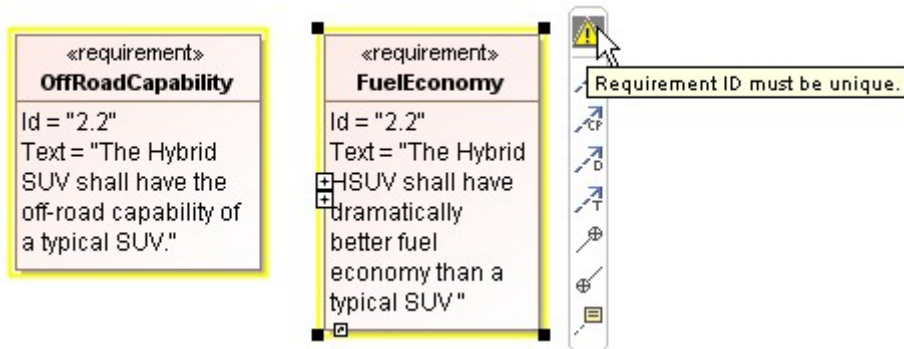

Figure 207 -- Error Message Displayed by the Warning Symbol
8. Place your mouse pointer on the warning icon to display the error message corresponding to the broken constraint (Figure 207).